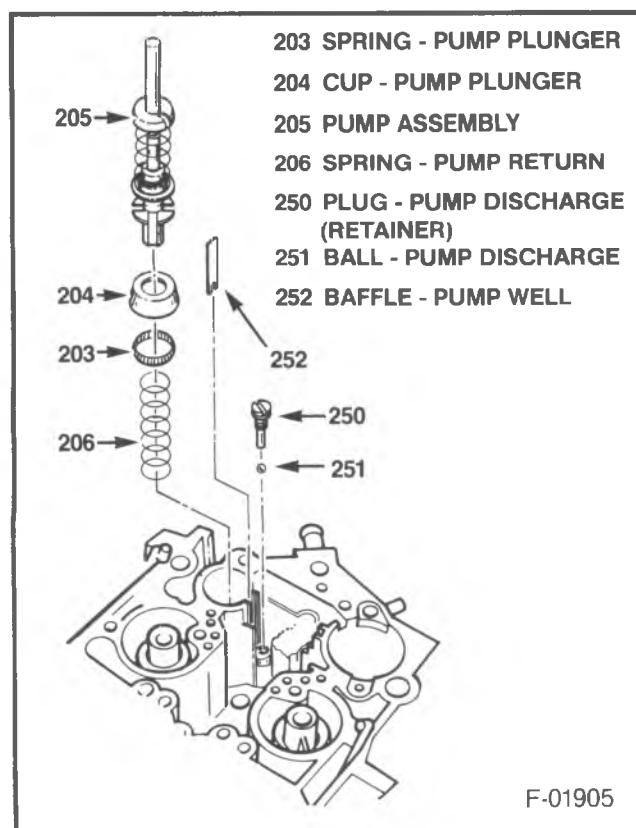

Figure 18 -- Pump and Discharge Ball
- Remove or Disconnect (Figure 18)
1. Air horn to float bowl gasket (201).
2. Pump assembly (205).
- Disassemble (Figure 18)
- Pump plunger spring (203), and cup (204).
3. Pump return spring (206) from pump well.
- Remove or Disconnect** (Figure 18)
1. Pump discharge plug (retainer) (250).
2. Pump discharge ball (251).
3. Pump well baffle (252).